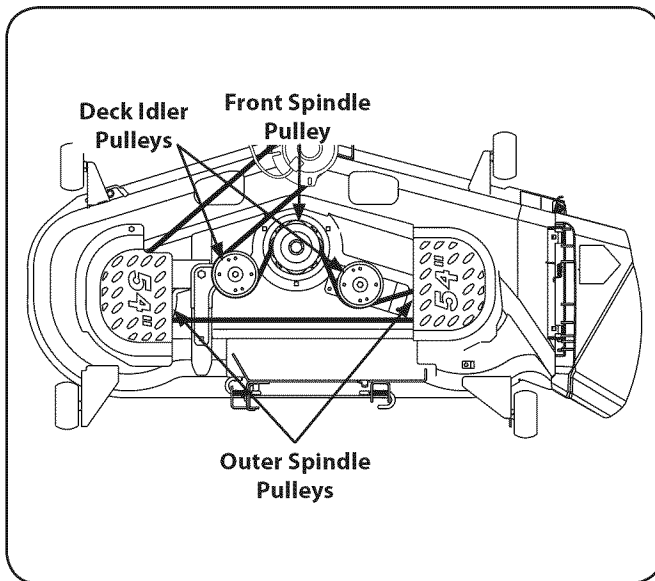

Figure 7-8
5. To place the new belt begin by routing the belt around the two outer spindle pulleys, then around the front spindle pulley as shown in Fig. 7-8.
6. Then route the belt around the two deck idler pulleys as show in Fig. 7-8.